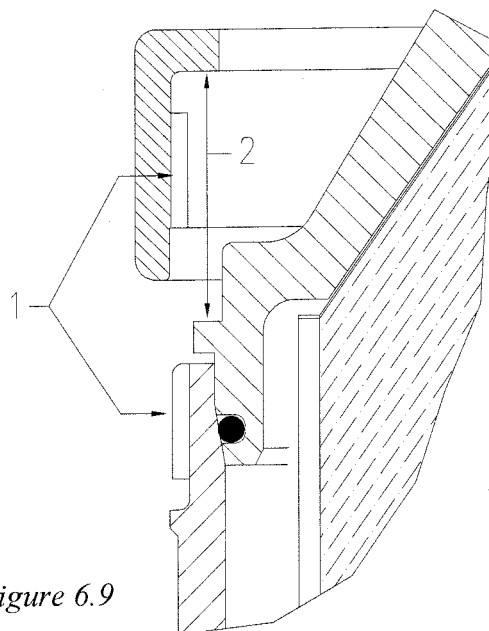

Figure 6.9
10) Smear antiscuff grease on threads of bowl body and big lock ring (fig. 6.9 - part 1) and on contact surfaces between bowl hood and big lock ring (fig. 6.9 - part 2).